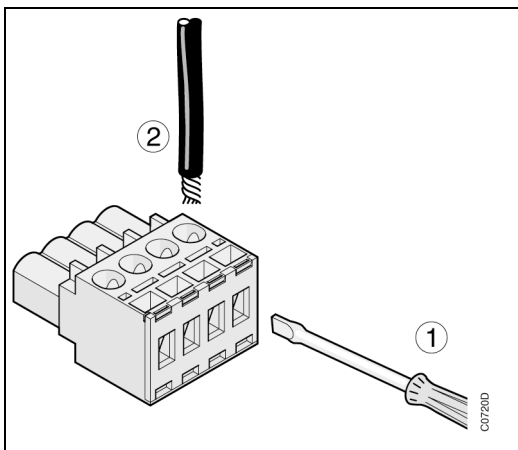

Figure 3-21 : "cage-clamp" type connectors
- to press with a screwdriver (see Figure 3-21)